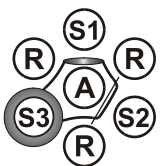

Figure 3.
4. **Very Strong Positive:** The reference positive control lines turn toward the antigen well before they reach the well containing the test serum (S1) and there is a broad, hazy line between the test serum (S1) and antigen (A) (Figure 3). This line is situated very near the antigen well (A), especially if the plate is observed at 24 hours.
5. **Non-Specific Lines:** These lines are observed between the antigen and test serum well. However, the reference positive control lines will pass through the non-specific line and continue on into the test serum well of negative sera (not shown). The non-specific line does not form a continuous line with the reference positive control lines. The reference positive control lines will form more acute angles with a non-specific line than with an EIAV-specific line of identity. The non-specific lines are formed by sample-antibody reactions with antigens other than EIAV p26. A sample serum may produce a specific EIAV line as well as a non-specific line (Figure 3, S2). Care must be taken to be certain a specific reaction is not obscured by a non-EIAV line. Retesting such samples and observing the reactions at frequent intervals may facilitate making determinations if the samples are positive or negative.
6. **Haze Around Well:** Occasionally a haze, due to lipids or other material in the serum, will form around the test serum well that may obscure the reference positive control lines near the sample well (Figure 3, S3). If the test is read at 24 and 48 hours, sometimes the results can be determined before the haze obscures the reaction. However, in some cases a determination cannot be made and another sample should be requested.